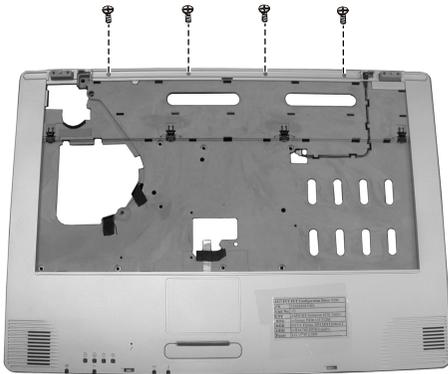

Figure 2-29 Remove four screws
2. Remove the four screws from the top cover. (Figure 2-29)